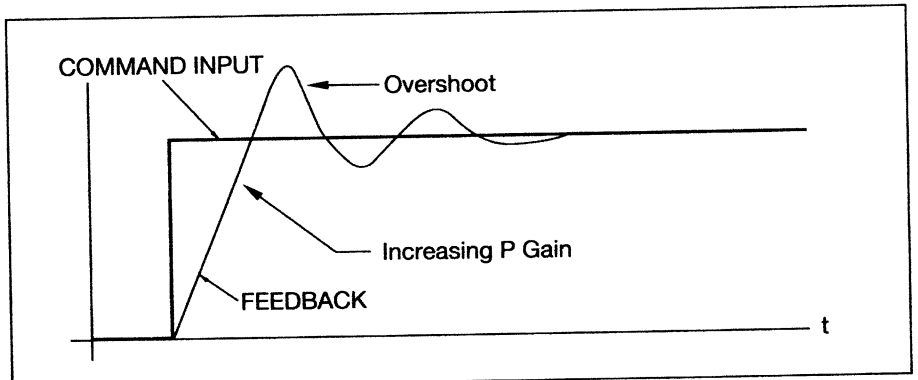

Figure 5. Moderate overshoot.
5. Now, continue to raise the Proportional Gain until a moderate overshoot occurs, as shown in Figure 5.